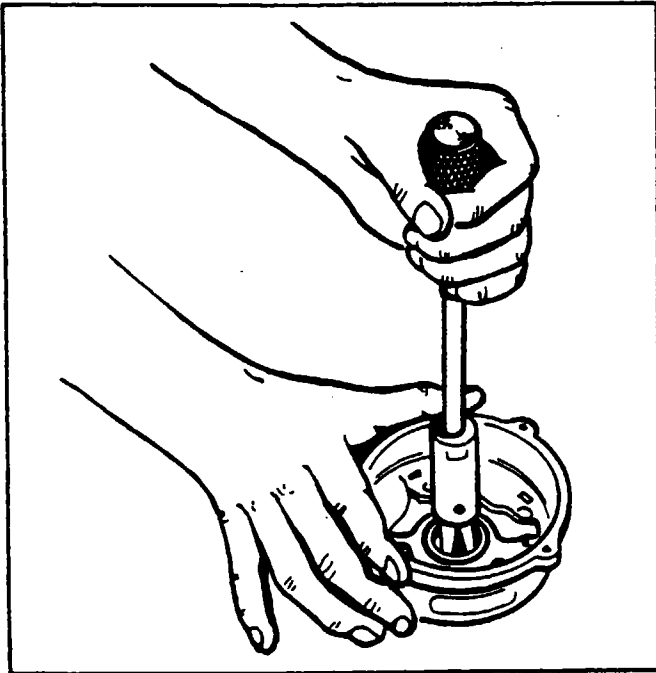

Figure 11-2. Removal of Slip Ring End Bearing
- e. To remove the slip ring end bearing and grease seal, it will be necessary to have a hook type or impact type bearing puller as shown in Figure 11-2. Do not remove the bearing unless replacement is necessary.